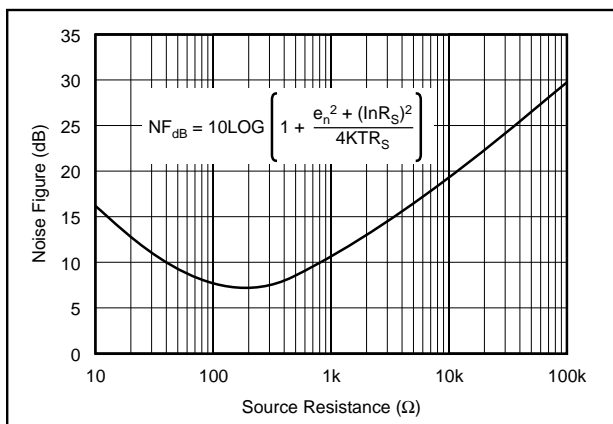

FIGURE 9. Noise Figure vs Source Resistance.
The OPA658's voltage and current noise spectral densities are specified in the Typical Performance Curves. For RF applications, however, Noise Figure (NF) is often the preferred noise specification since it allows system performance to be more easily calculated. The OPA658's Noise Figure vs Source Resistance is shown in Figure 9.